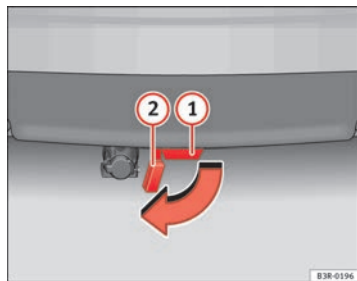

Fig. 163 Rear bumper:
- Remove the cover piece ② ⇒ fig. 163 on the mounting fixture ① below the bumper as far as it will go. The cover piece is held automatically in the open position.